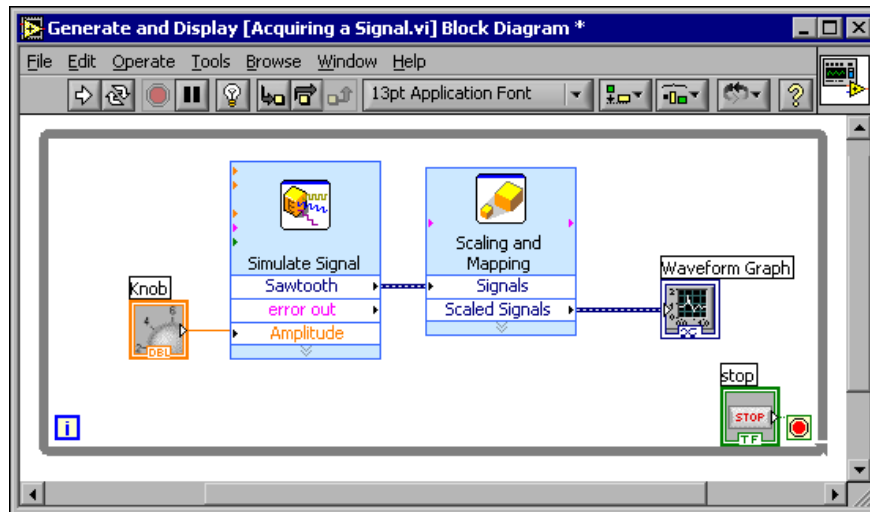

Figure 1.22
9. Using the Wiring tool, wire the Scaled Signals output of the Scaling and Mapping Express VI to the Waveform Graph terminal. Notice the wires connecting the Express VIs and terminals. The arrows on the Express VIs and terminals indicate the direction that the data flows along these wires. The block diagram should appear similar to Figure 1.22.